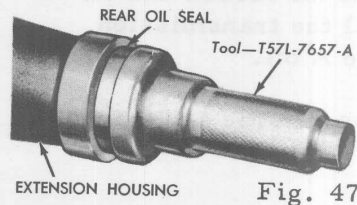

Fig. 47
- ☒ When installing a new bushing use a bushing installer (Fig. 47).